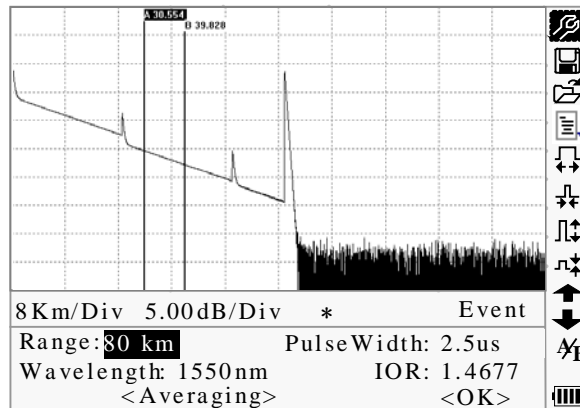

Figure 4-8. Realtime Testing
- Use [◀] and [▶] to move the parameter to be changed (Figure 4-8), and the press [Enter].